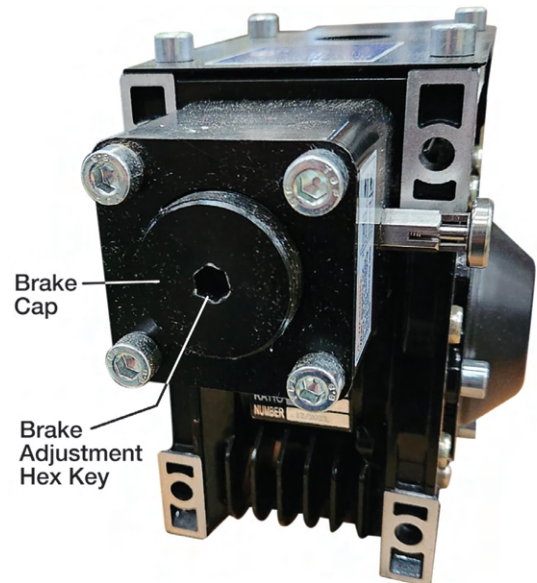

Figure 8-7: Winch Brake Adjustment
2. Each winch comes from the factory with the brake adjusted to provide correct resistance to hold and lower the load. If field adjustment is needed, insert a hex wrench into the brake cap and adjust in small 1/4-turn increments (see Figure 8-7). Make sure the brake cap is torqued to the factory setting of 44 in-lb.